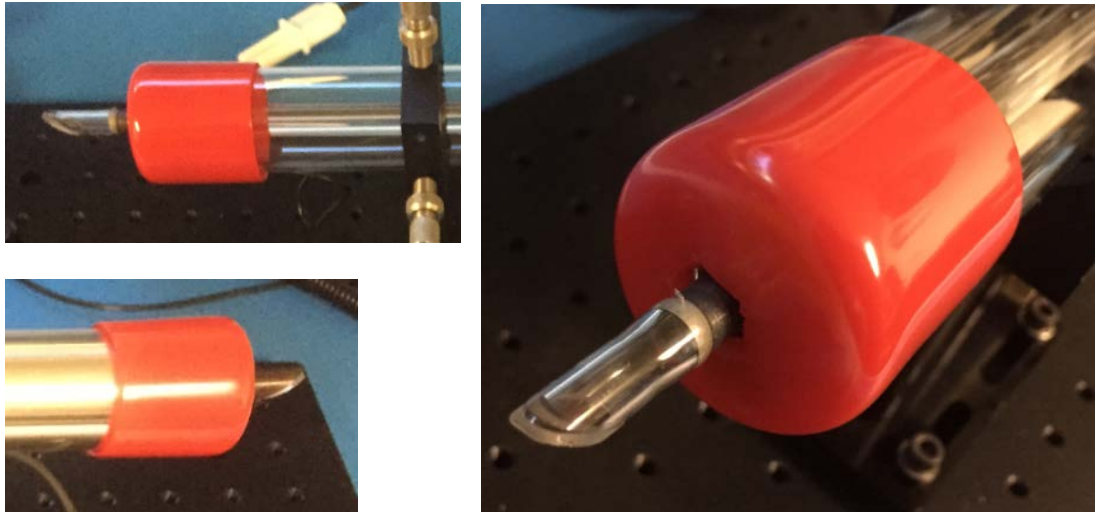

Figure 14
Step 10: Attach cable assembly (02-503-001) to HeNe tube using c-clips. You must use the insulation covers (figure 14) on both ends of the tube to prevent the risk of an electrical shock.